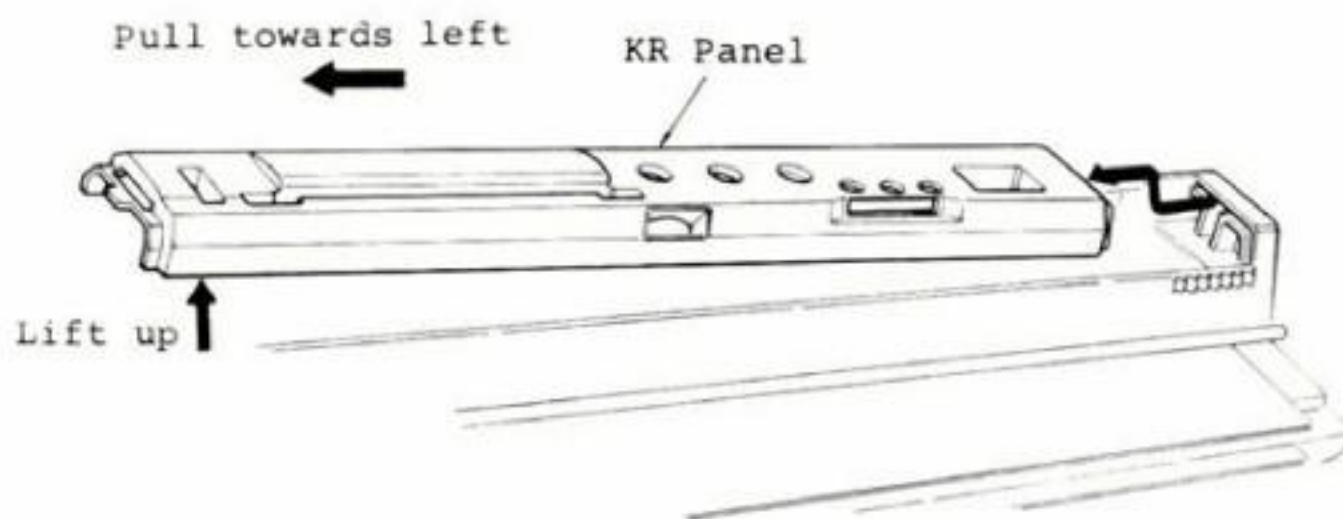

Fig. 20
6. To remove the KR Panel, slide it to the left, as indicated in Fig. 20, below.